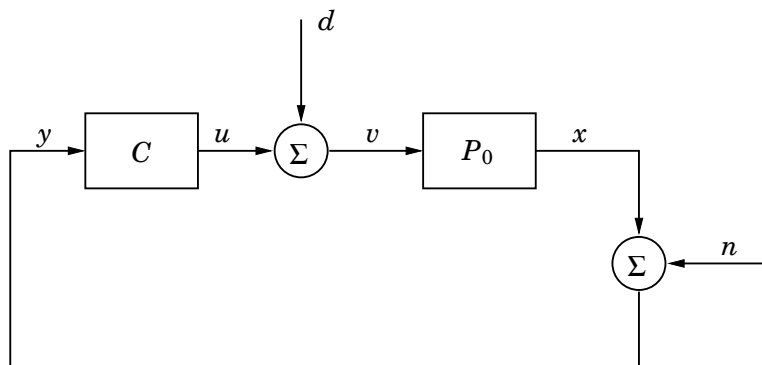

Figure 11.1 The block diagram of the closed-loop system in Problem 11.1.
- 11.1** Consider the control system in Figure 11.1, designed for the stable, linear, SISO system P_0 .
- c. Determine H for the system in Figure 11.1 and rewrite it in terms of the (output) sensitivity function $S = \frac{1}{1 - P_{yu}C}$ and complementary sensitivity function $T = -\frac{P_{yu}C}{1 - P_{yu}C}$. Use the formula in b.